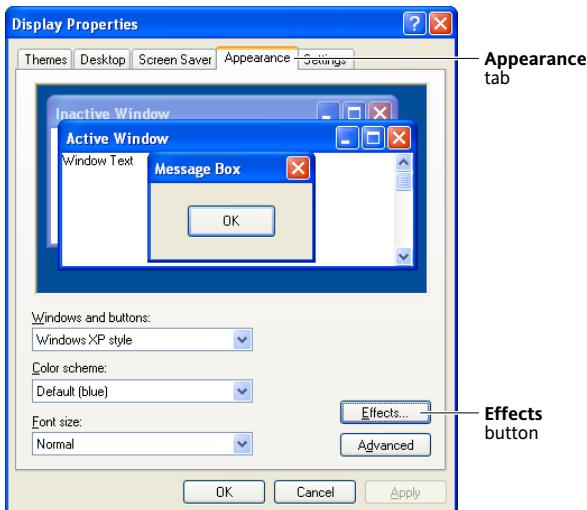

Figure 5.2 Display Properties dialog box
- b) In the Display Properties dialog box (figure 5.2), click the Appearance tab then the Effects button.